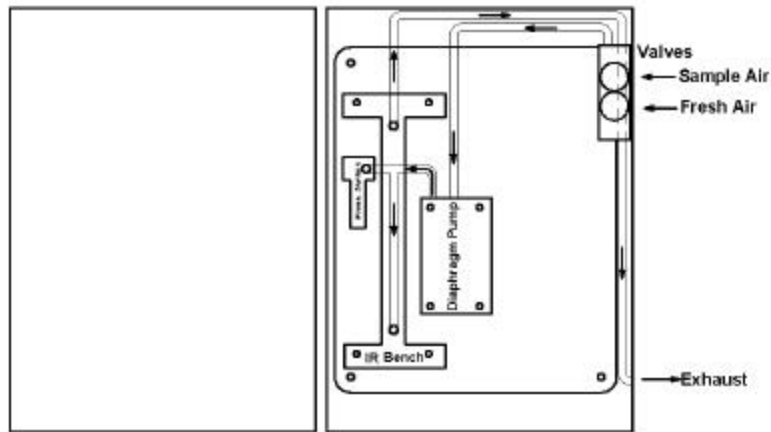

Figure 2 Pneumatics Diagram
**Pneumatics:** Refer to the figure 2 for pneumatics block diagram. Tubing from the area to be monitored and from a reference air source (either fresh, outside air, or interior conditioned air that is free of refrigerants) is connected to the valve manifold. The electronics alternates between energizing the Sample air and the Auto zero air solenoids. The diaphragm pump draws air from the selected inlet and feeds the air through an orifice restrictor, through the infrared bench and to the exhaust port located on the lower right side of the unit. The pressure switch